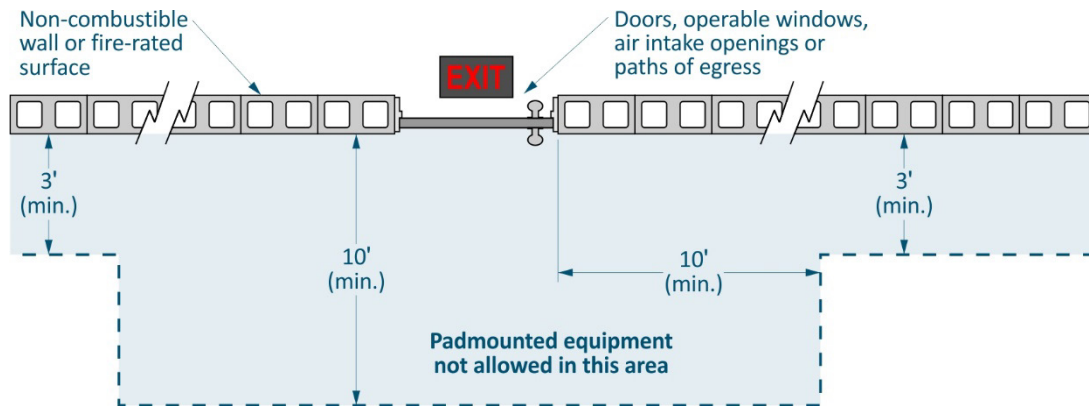

Figure 12 Clearance from a Non-Combustible Wall
Buildings have additional requirements. **Buildings are required to be 10 feet from padmounted transformers.** This clearance may be reduced to three (3) feet from a non-combustible wall. However, 10 feet of clearance is still required in all directions from doors, operable windows, or air intake vents on a non-combustible wall, and paths of egress, see Figure 12.